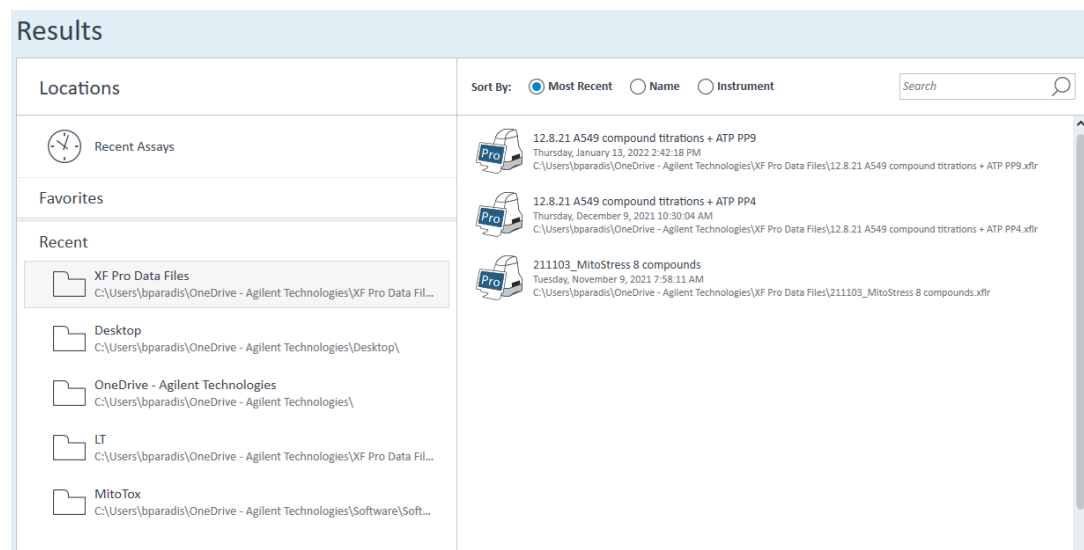

Figure 147. Recent Assays, recent places, and favorite places
- Favorites displays user-defined locations (local or network directories) where assay result files are frequently added to, or accessed from. Once configured, each local directory added as a Favorite Place will appear below Recent Assays as a folder icon. (See Figure 147.)
- Recent displays the file location (for both local and network directories) of recently opened assay result files in the order of when each result file was opened. (See Figure 147.)